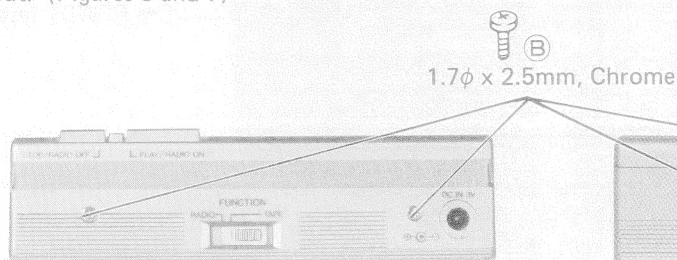

Figure 6
1. Remove four screws (B) retaining the back cabinet and the mechanism assembly to take the back cabinet out. (Figures 6 and 7)